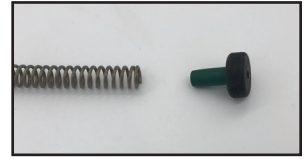

Figure 1
- Now we will install the braking system on the opposite end of the Galvanized Aircraft Cable (B). Place the first brake stop into the end of the spring as shown in Figure 1. Insert the Galvanized Aircraft Cable through the first end of the spring until it is sticking out of the other end.